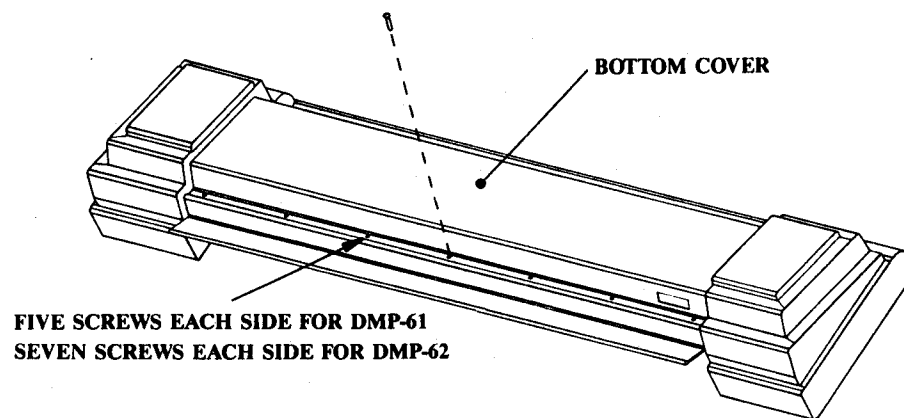

FIGURE C-1. BOTTOM VIEW OF PLOTTER
4. Remove the screws shown in Figure C-1 and remove the bottom cover.